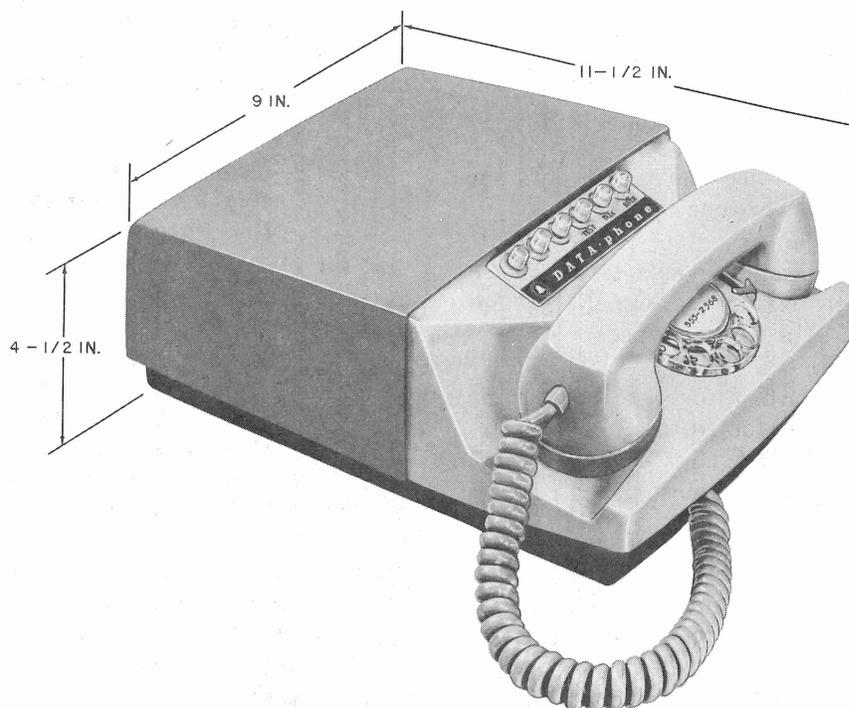
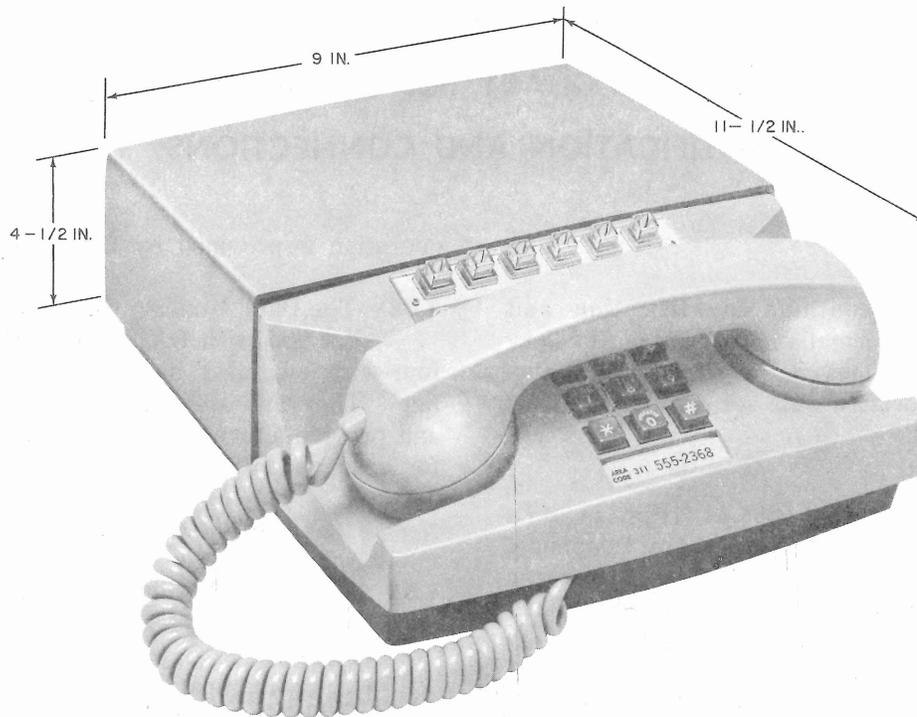
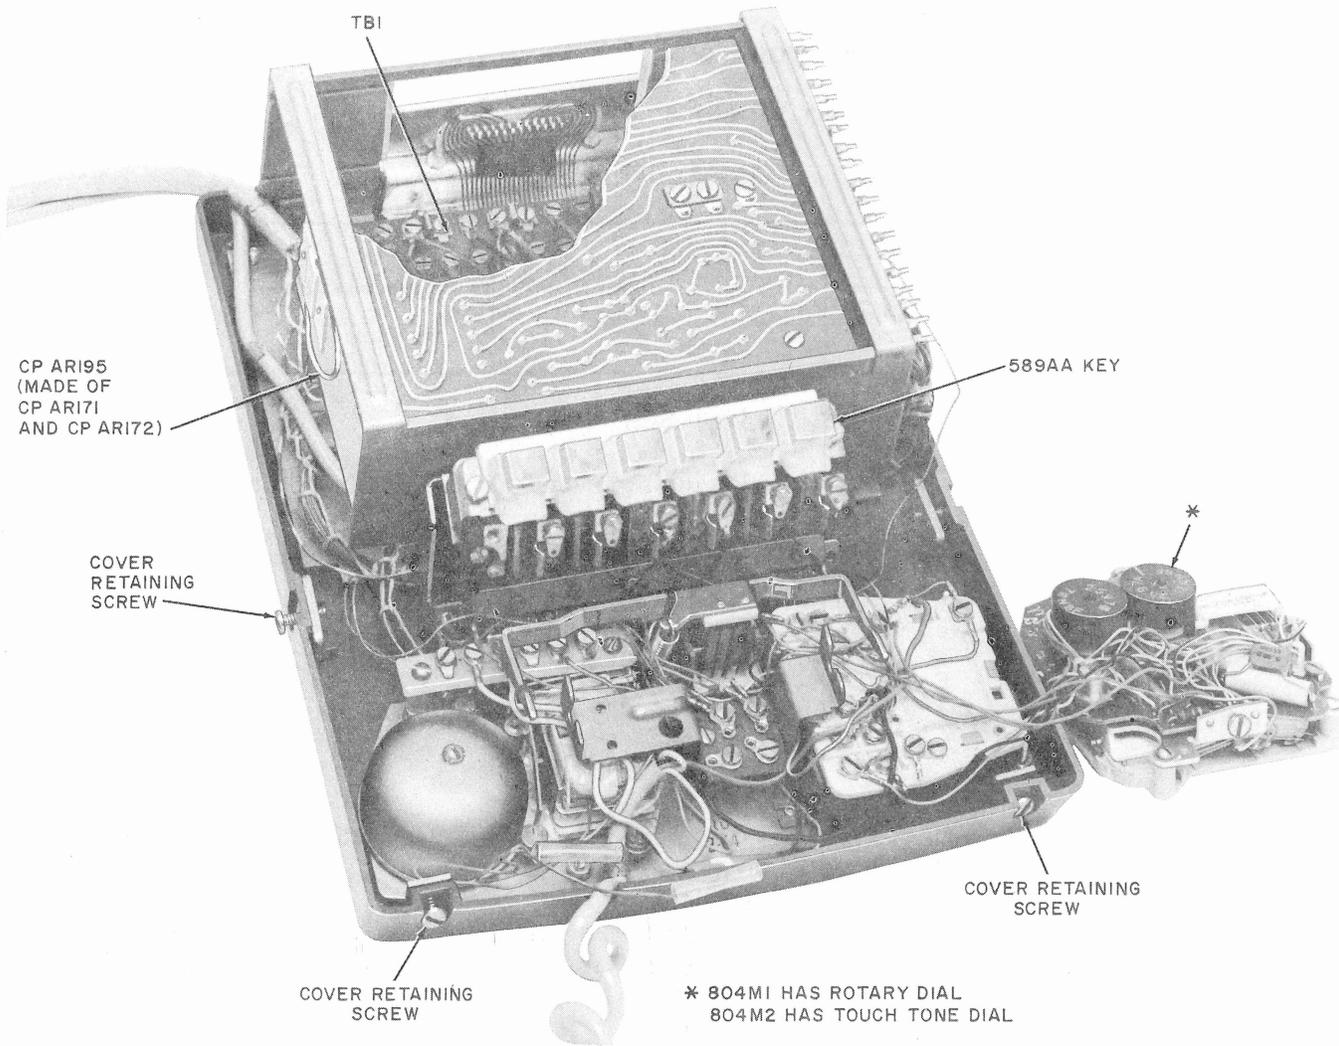

Fig. 1—Data Auxiliary Set 804M1, Front View
Fig. 2—Data Auxiliary Set 804M2 Front View
Fig. 5—Data Auxiliary Set 804M- Type, Internal Components
1.02 Data Auxiliary Set 804M1 (Fig. 1) is a six-button set which contains a telephone, control circuitry, a rotary dial (11C Apparatus Unit), and CP AR195 which consists of CP AR171 and CP AR172. Data Auxiliary Set 804M2 (Fig. 2) is identical to the 804M1 with the exception that it contains a TOUCH-TONE® dial (11G Apparatus Unit).
2.01 The two basic types of Data Auxiliary Set 804M-type are 804M1 and 804M2. Both data auxiliary sets provide the same features and perform the same functions but differ in appearance because the 804M1 is a rotary dial version. The 804M2 is a TOUCH-TONE version. The data auxiliary sets are housed in a two-tone gray enclosure. Their dimensions are shown in Fig. 1. The sets weigh approximately five pounds each. Fig. 5 illustrates the internal components of either type set (804M1 or 804M2).
3.01 Fig. 5 shows the locations of the cover retaining screws in the base of the data set. To remove the cover, perform the following operations: